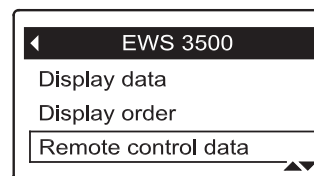

FIG. 123
3. Press the DOWN (▼) button to scroll through the menu options until **Remote control data** is highlighted in a box (See Figure 123).
8. When selections are complete, exit this menu by pressing the LEFT (◀) button. The display will go back to the device menu (Figure 123).